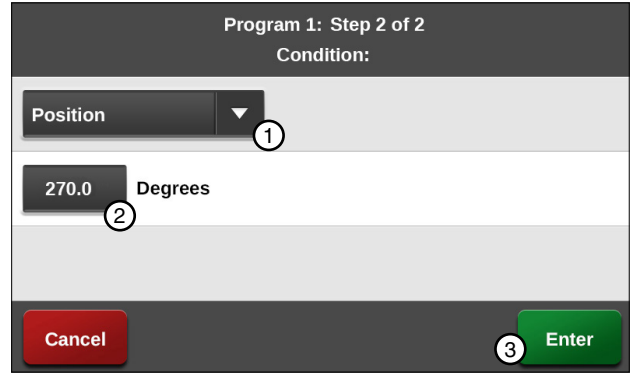

Figure 133-1 1. Position Condition 3. Enter
6. Program the position condition for this step. Refer to Figure 133-1.